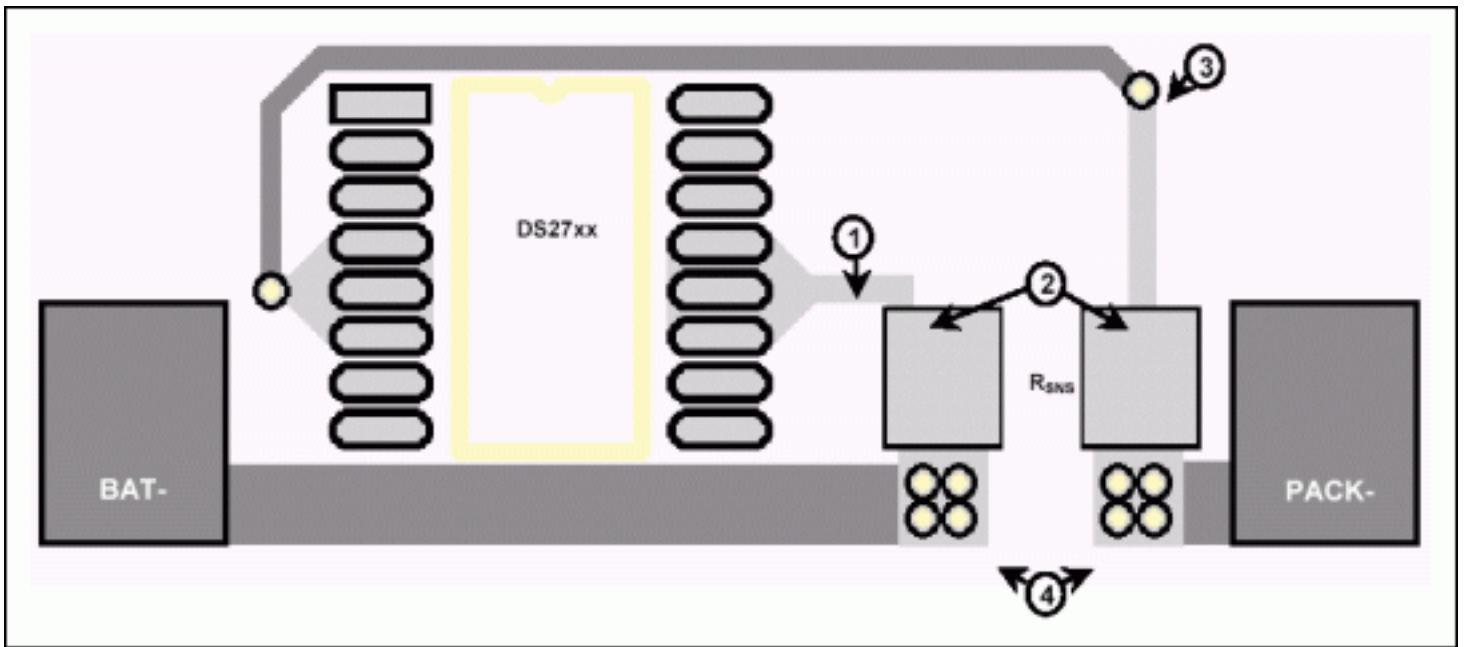

Figure 2. DS27xx circuit layout considerations.
**Figure 2** shows a sample layout of a DS27xx fuel gauge incorporating the design methods described above. Key points of the layout labeled in Figure 2 are described as follows.
- (1) The resistance in the trace from GND pins to the BAT- side of the sense resistor has been minimized by keeping the trace short and eliminating all vias.
- (2) Both sense lines contact the main current path directly at the sense resistor. There is very little board trace shared with the main current path and no shared vias.
- (3) Resistance of the SNS pin connection is unimportant. The trace can be long and can contain vias without affecting measurement accuracy.
- (4) Vias and any other resistances in the main current path are external to where the sense points contact the sense resistor and therefore do not affect measurement accuracy.